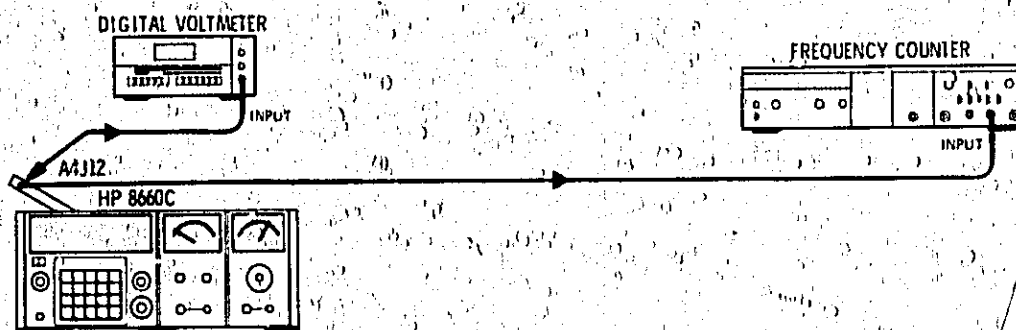

Figure 5-11. Voltage Controlled Oscillator Adjustments Test Setup
3. Voltage Controlled Oscillator Adjustment (see Figure 5-11).